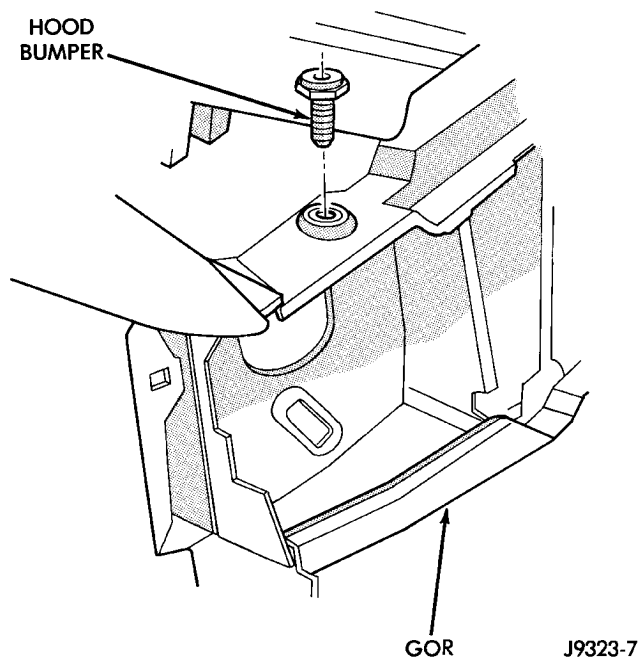

Fig. 77 Hood Bumper
- (1) If hood is low in relation to cowl panel, insert shims between hinge and hood.
- (2) Adjust hood bumper (Fig. 77) in or out to adjust hood-to-fender height alignment.
- (3) Adjust the hood latch as necessary. Tighten the nuts to 11 N·m (8 ft·lbs) torque after adjustment.
- (4) Align latch striker so that striker enters the latch squarely and without binding.